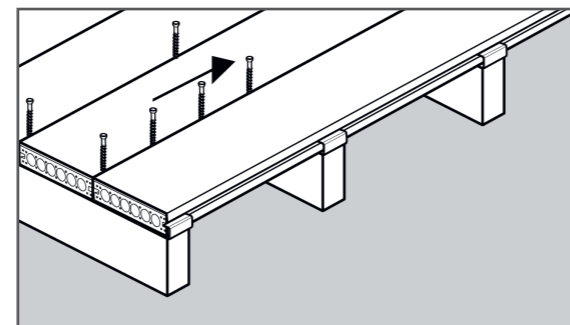

FIG. 9
- 8 Insert the remaining **T-Clips** (one per joist) into the groove at the end of the **board**, and holding the screw slide each **clip** along the length into position over a joist (fig. 9)